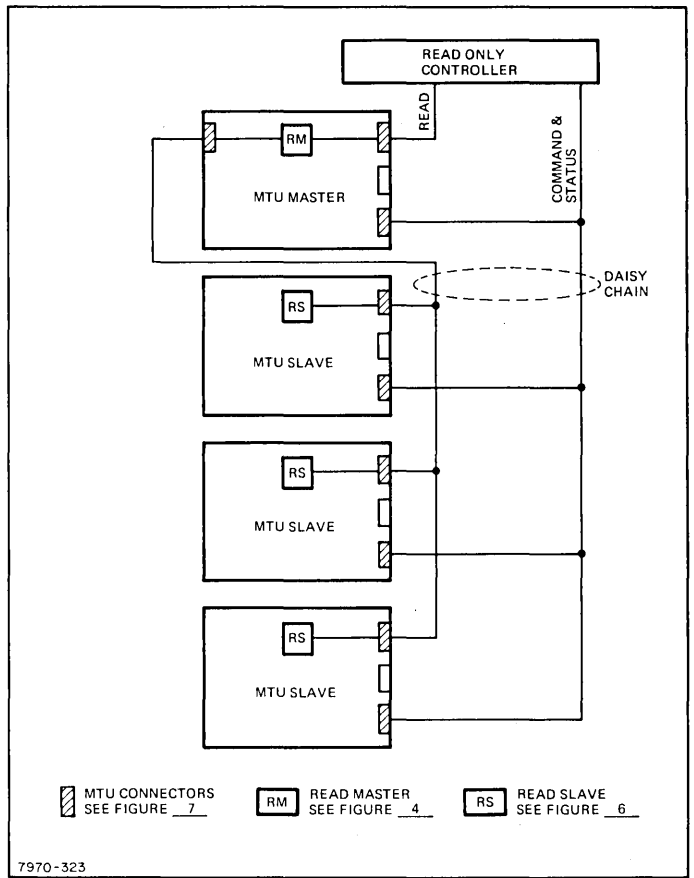

Figure 2. Read-Only 1600 CPI Phase-Encode Configuration
b. READ-ONLY (9-Track PE Read-Only). Both master and slave units contain the same command-and-status electronics. (See figure 2.) Complete PE read data electronics is